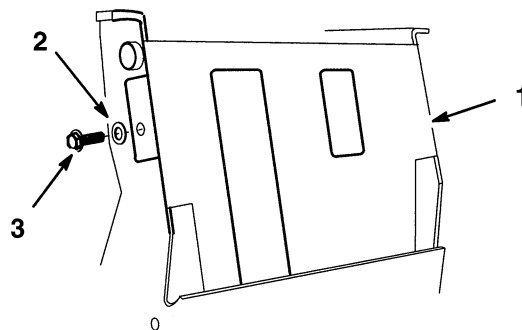

Figure 22
10. Install rear frame panel with previously removed hardware (Fig. 22).